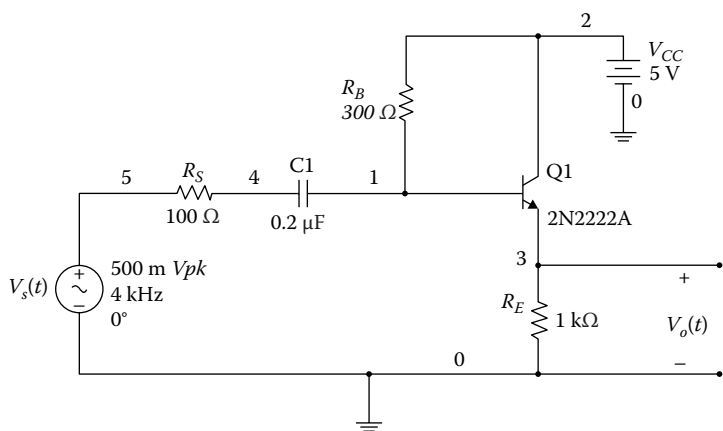

FIGURE P7.11
- Problem 7.11** For the circuit shown in Figure P7.11, use the Analog Discovery board (1) to determine gain at 4 kHz and (2) measure the voltage across the 100Ω resistor and calculate the input resistance.